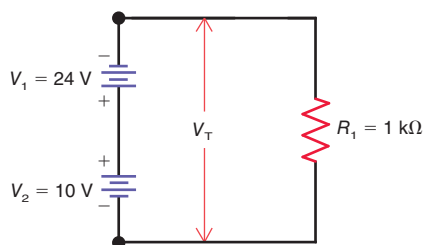

Figure 5-30
5.23 In Fig. 5-30,
5.24 In Fig. 5-30, assume that V_2 is increased to 30 V. What is